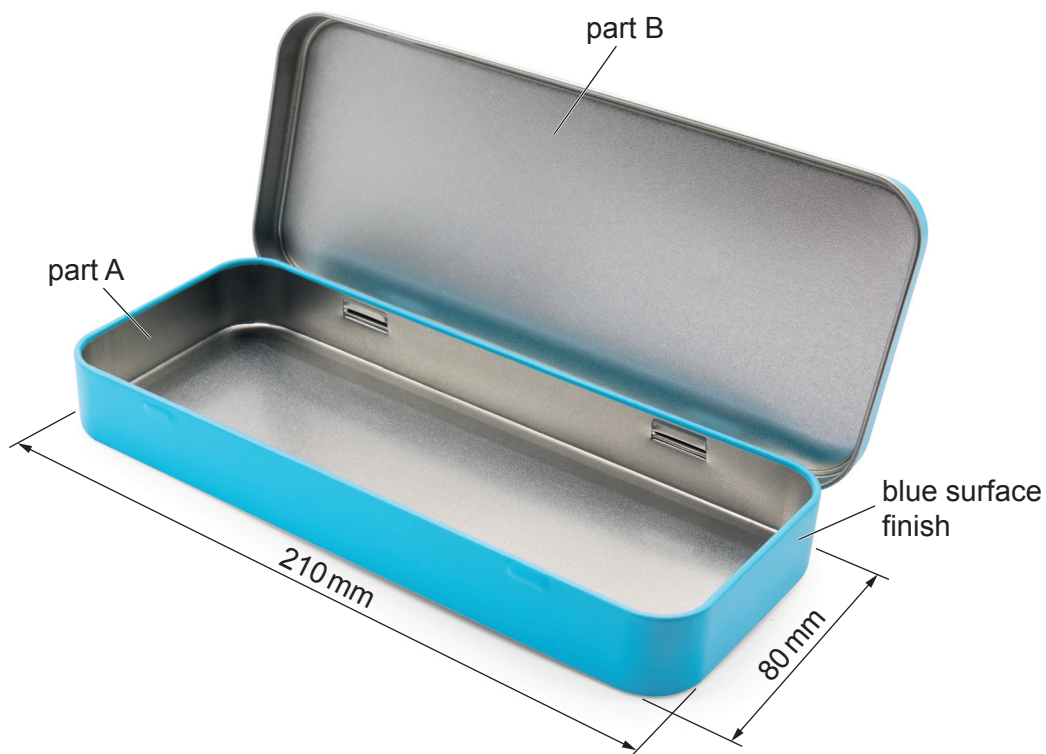

Fig. 3.1
3 Fig. 3.1 shows a metal container (part A) with an integral hinged lid (part B).
(a) The container shown in **Fig. 3.1** is manufactured from sheet metal.
- (b) Use annotated sketches and/or notes to show how part A of the container shown in **Fig. 3.1** would be manufactured as a batch of 80 000 from sheet metal.
- (c) Use annotated sketches and/or notes to show how the blue surface finish shown in **Fig. 3.1** would be applied to the outer surface of the batch of 80 000 containers.